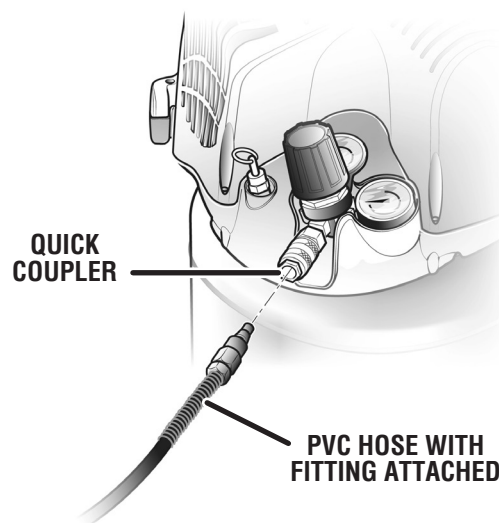

Fig. 3
See Figure 3.
- Insert the hose into the quick coupler already installed on the compressor (Fig. 3).